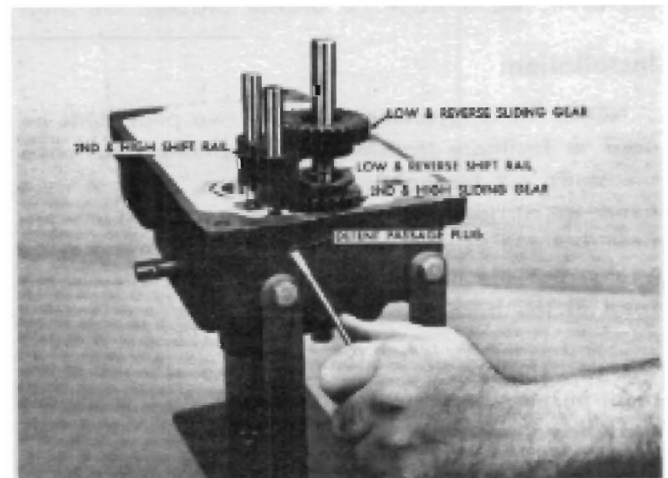

FIGURE 4
14. With a screw driver or other suitable tool remove the plug from the detent passage, as shown in Figure 4.